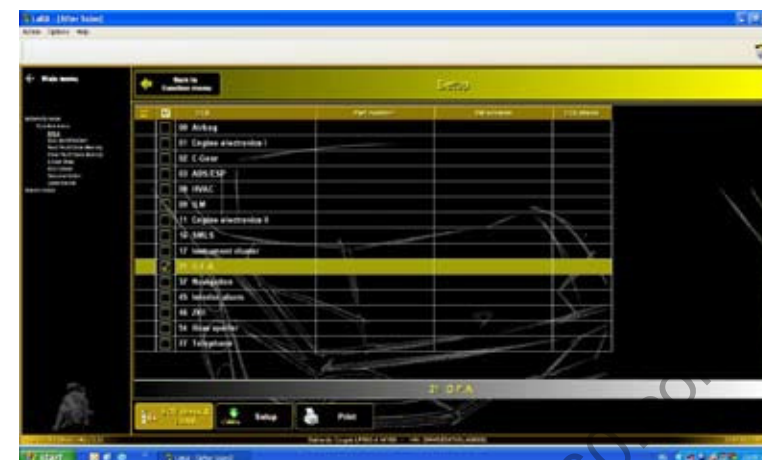

Fig.112
2. The system will start to control the automatic software update of the GFA control unit (**Fig.112**).